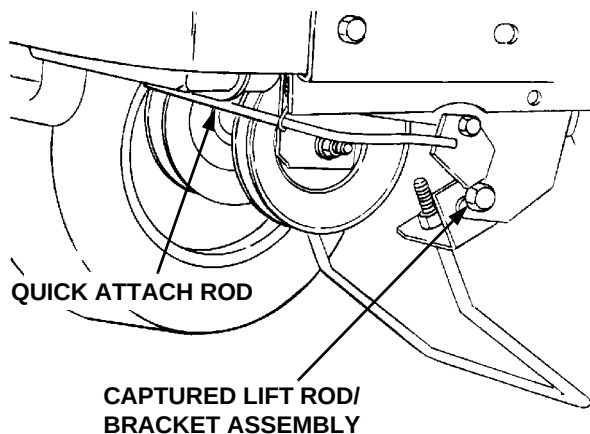

Figure 32
7. Release the tractor quick-attach rod to capture the front lift rod/bracket assembly in the tractor latch receivers (Refer to Figure 32).